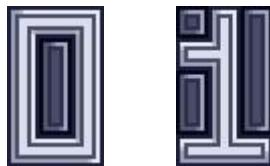

Figure 2.36
2. Explain why the device shown in Figure 2.36 activates the broadcast box instantaneously when the world turns on. What does the fault logic gate in the unit do?